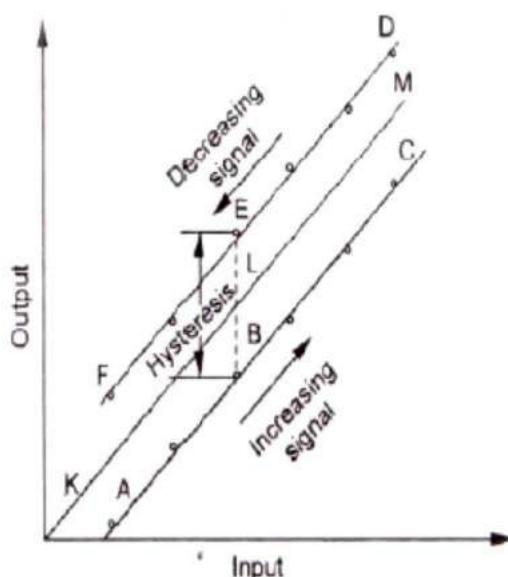

Figure 1.6 Calibration curve
- Line or curves plotted in the graphs may not close to form a loop. In a typical calibration curve (**Fig 1.6**) ABC represents the readings obtained while ascending the scale; DEF represents the readings during descent; KLM represents the median and is commonly accepted as the calibration curve.